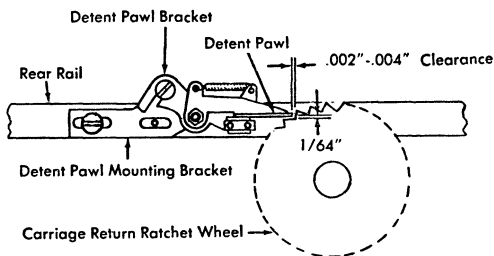

Figure 10. Detent Pawl Assembly
This assembly is mounted on the rear rail and is used during carriage return and backspace. By constant engagement with the carriage-return ratchet wheel, the detent pawl prevents the backward rotation of this ratchet and the entire escapement mechanism (Figure 10).
1. **DETENT-PAWL MOUNTING BRACKET** should be adjusted so that there is $.002''-.004''$ clearance between the end of the detent pawl and the vertical side of a tooth on the carriage-return ratchet. Because of an accumulation of tolerances, the clearance may vary. It is necessary to turn the ratchet and make the adjustment to that tooth which gives the least clearance (Figure 10).
2. **DETENT-PAWL STOP** should be adjusted for $\frac{1}{64}''$ clearance between the underside of the detent pawl and the horizontal side of a tooth on the carriage-return ratchet. Position the detent-pawl bracket to obtain this adjustment (Figure 10).